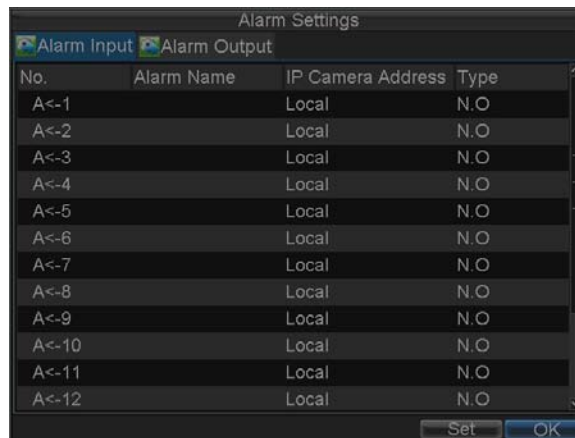

Figure 8. Alarm Input Interface
1. Click *Menu > Settings > Alarm* to enter the Alarm Settings menu, shown in Figure 8.